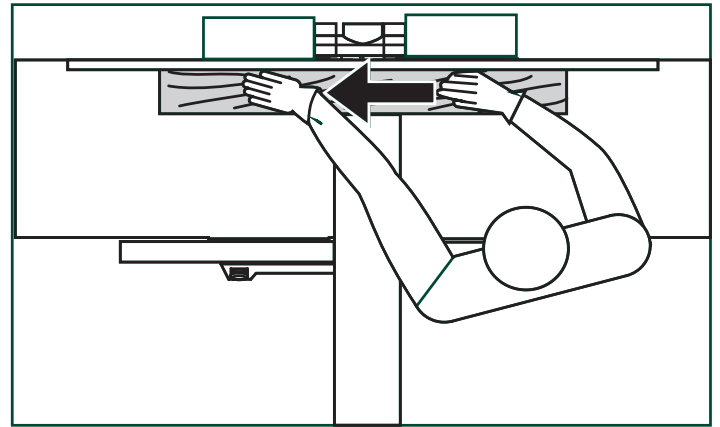

FIG. 41
- When jointing, the feeding direction of the workpiece is right-to-left over the cutterhead. FIG. 41.
6. Assume the proper operating position: stand to the side of the infeed table with feet apart for stability through the whole cutting process. FIG. 41.